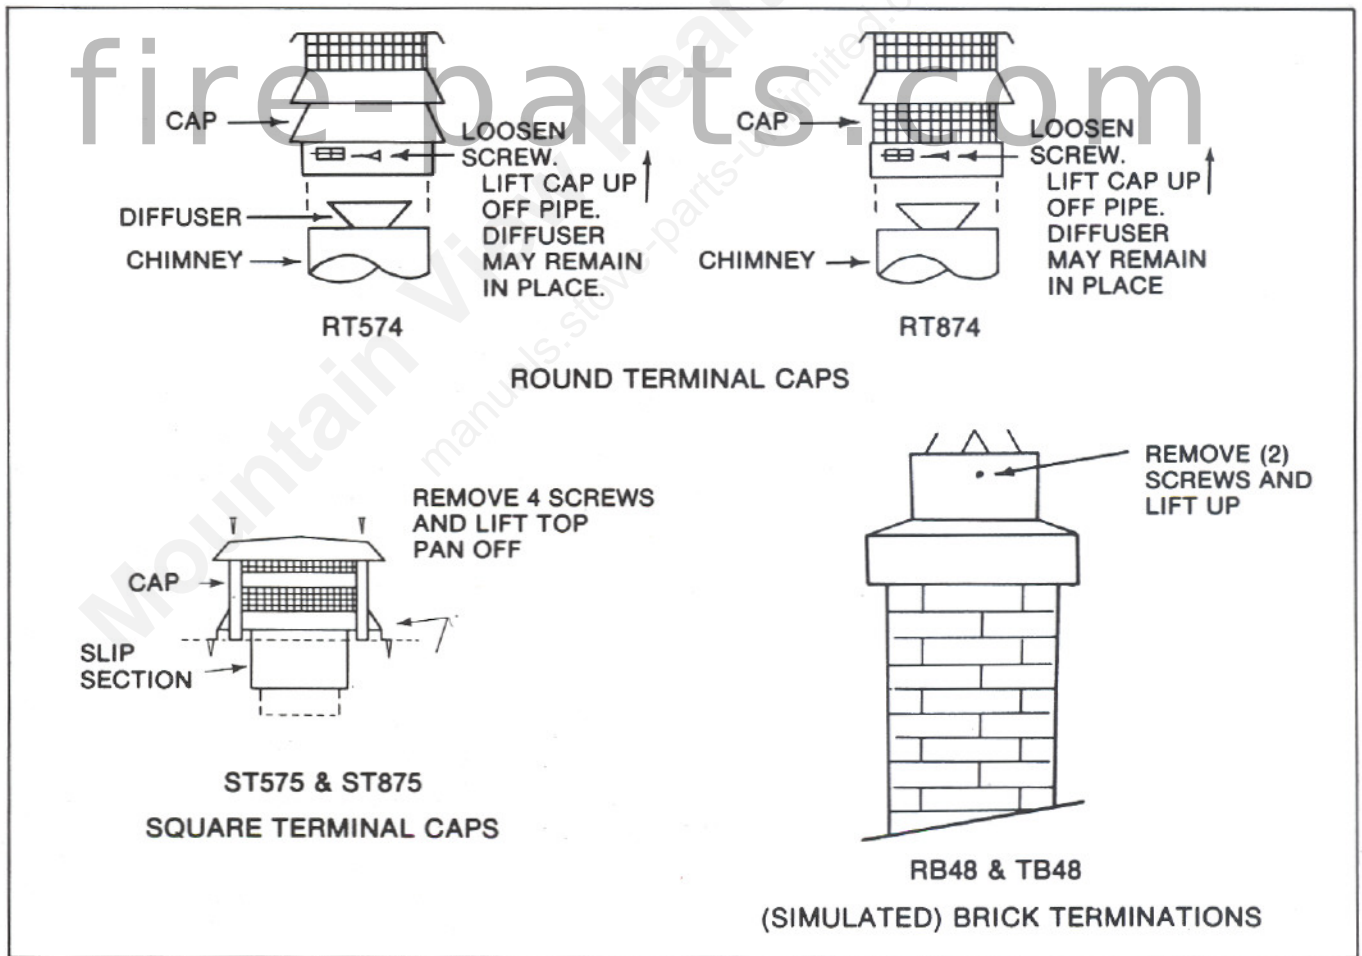

Figure 1
3. Remove terminal cap or housing top. See Figure 1.